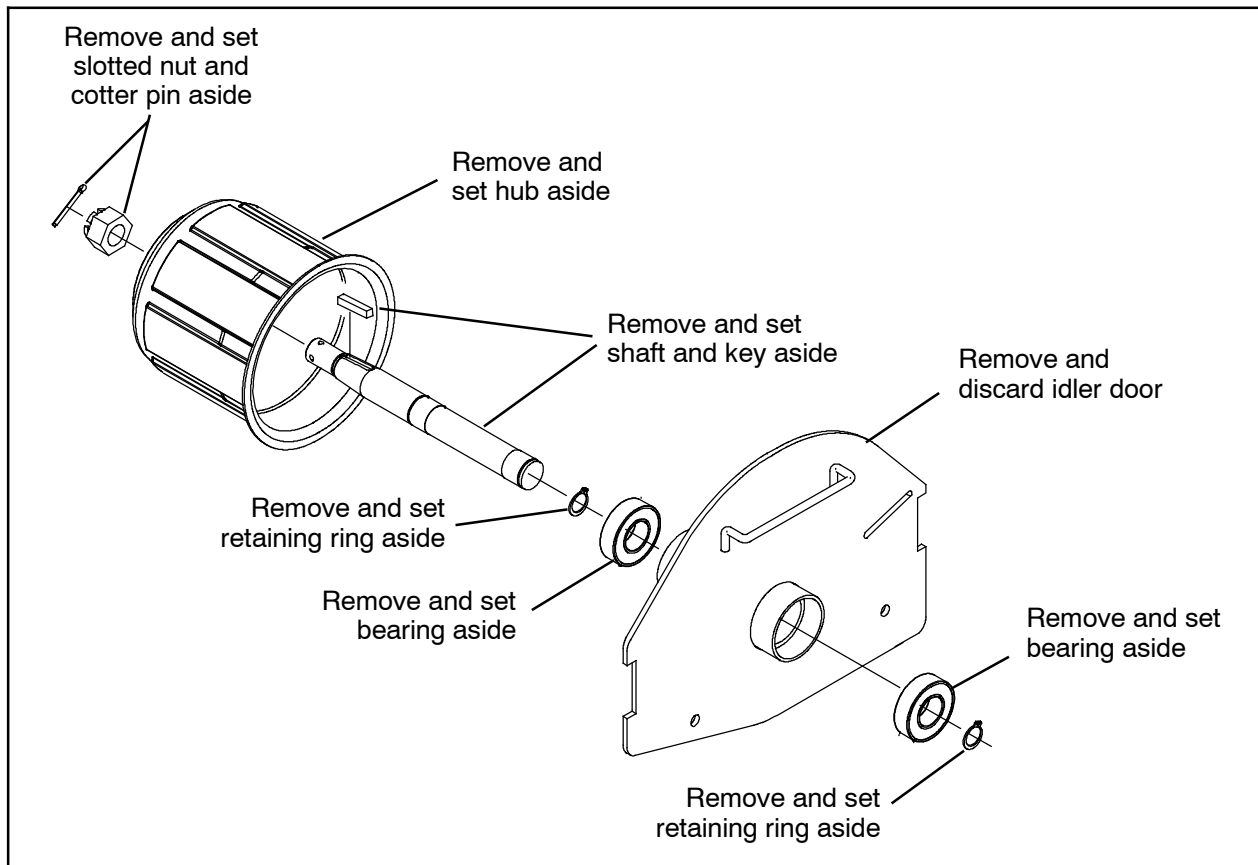

FIG. 5
13. Remove the cotter pin securing the slotted nut onto the idler assembly and remove the slotted nut and hub from the idler assembly. Set the slotted nut, hub, and cotter pin aside. (Fig. 5)
14. Remove the retaining rings holding the shaft in the idler door and remove the shaft from the idler door. Set the shaft and retaining rings aside. (Fig. 5)
15. Carefully remove the bearings from inside the idler door. Take care to not damage the bearings. Set both bearings aside. Discard the idler door. (Fig. 5)